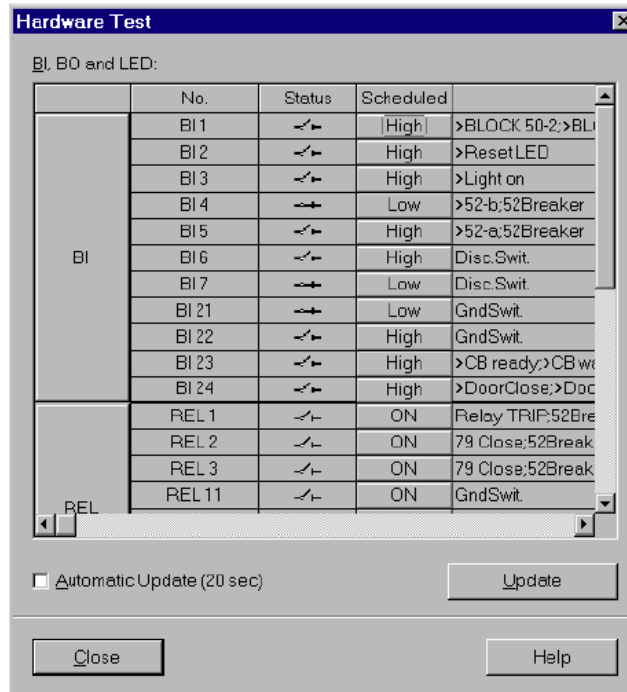

Figure 3-23 Testing of the binary inputs and outputs — example
- Double-click in the list view on **Device inputs and outputs**. The dialog box with this name is opened (see Figure 3-23).